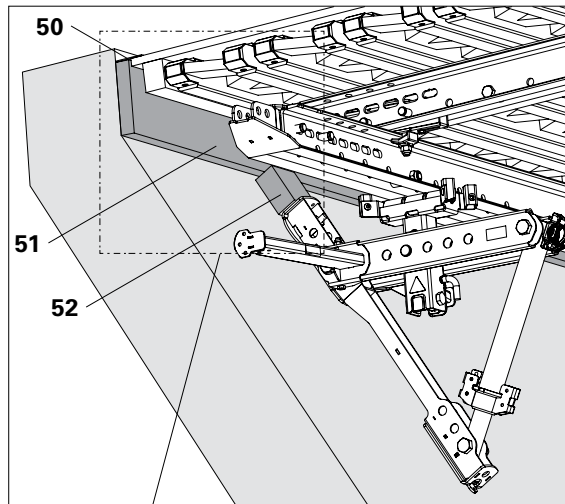

Fig. B5.09
1. Place timbers (52) on the Wall Shoe of the Wall Support and, if necessary, nail firmly in position.
2. Place supporting board (51) on timbers and nail down.
3. Close filler area with formlining strips (50). Nail the formlining strips to the supporting board and girder of the slab formwork. (Fig. B5.09 + B5.09a)